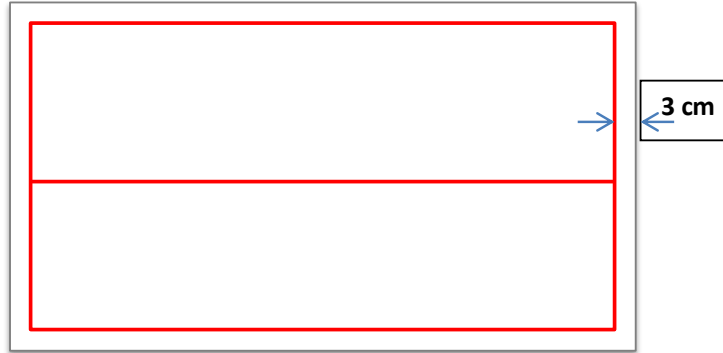

Figure-1
- It is recommended to apply the foam in 2-3 cm strips (figure-1).